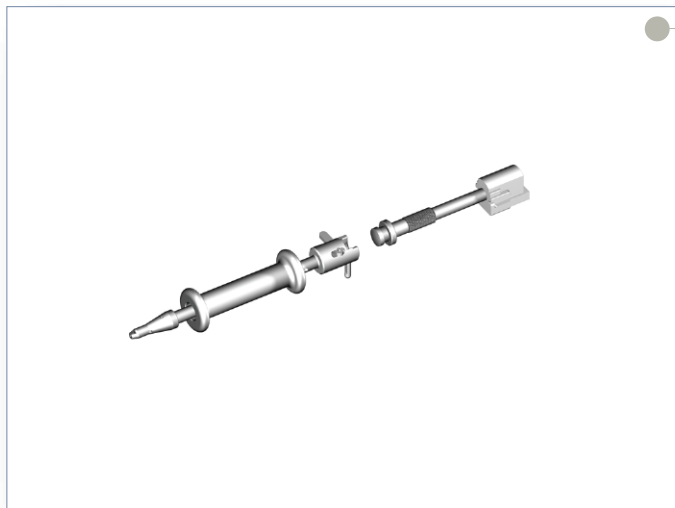

Figure 36
- ▶ Remove the Compactor from the tracks with a Slaphammer if necessary (**Figure 36**).